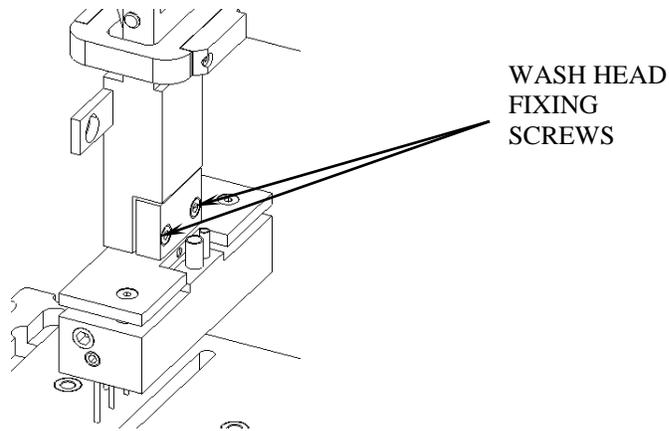

Figure 2
2. Loosen the two M3X12 Cap Wash Head Fixing Screws. See *Figure 2*.